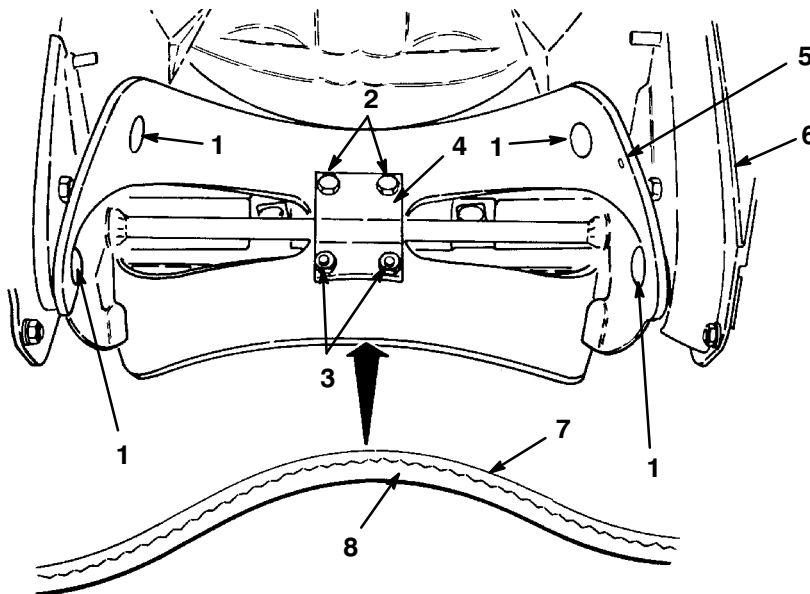

Figure 13
1. Remove four torx screws, two cap screws, and six locknuts that secure the blade to the rotor shaft assembly (Fig. 13).
2. Slide the blade out from between the blade supports (Fig. 13).
1. Examine a new rotor blade edge for the difference in layer thickness (Fig. 13). Some rotor blades have a part number on the thick side of the blade.
Install the rotor blades with the thick layer on the **inside** of the curve. (Fig. 13). If you do not install the blades properly, the blades may be out of balance and cause the snowthrower to “hop” or “bounce.”
4. Position the screw heads on the thick layer side of the blade (Fig. 13).
5. Curve the blade and secure it with the remaining four torx screws and locknuts, positioning the screw heads on the thick layer side of the blade (Fig. 13).